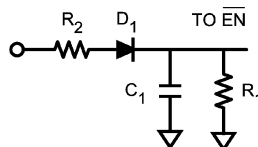
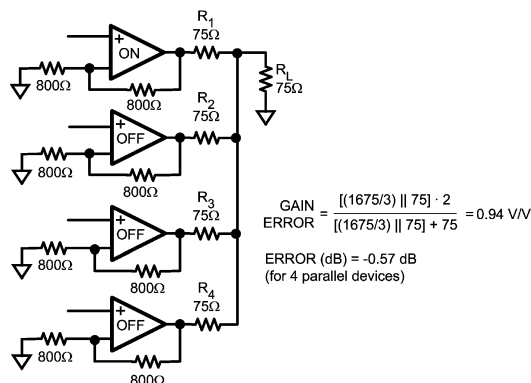

Figure 21. Delay Circuit Implementation
Figure 22. Multiplexer Input Expansion by Combining Outputs
If it is important in the end application to make sure that no two inputs are presented to the output at the same time, an optional delay block can be added prior to the ENABLE(EN) pin of each device, as shown. Figure 21 shows one possible approach to this delay circuit. The delay circuit shown will delay ENABLE's H to L transitions (R_1 and C_1 decay) but will not delay its L to H transition.
With the **ENABLE** pin putting the output stage into a high impedance state, several LMH6572's can be tied together to form a larger input MUX. However, there is a slight loading effect on the active output caused by the off-channel feedback and gain set resistors, as shown in Figure 21. Figure 22 is assuming there are four LMH6572 devices tied together to form a triple 8:1 MUX. With the internal resistors valued at approximately 800Ω, the gain error is about -0.57 dB, or about -6%.